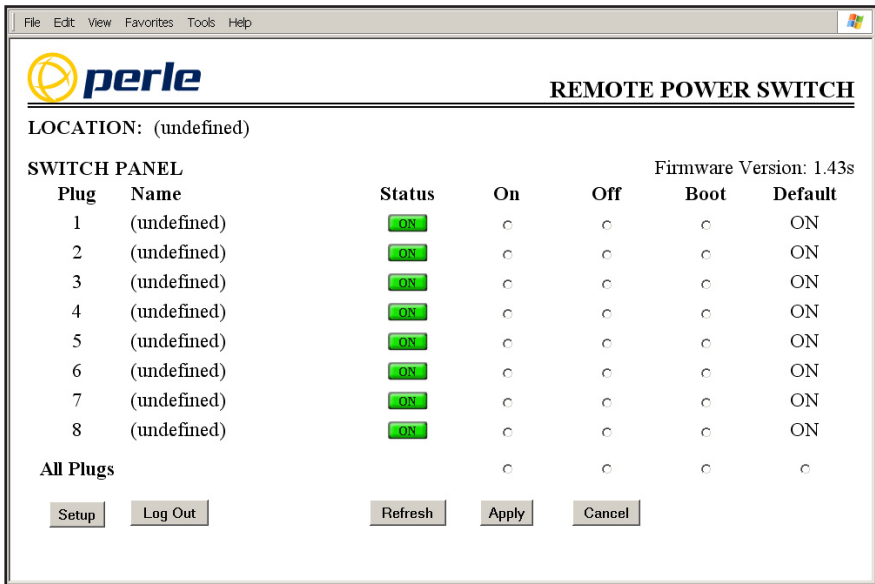

Figure 3.1: Plug Status Screen - Web Browser Interface (Model RPS830 Shown)
- a) **Web Browser Interface:** Start your JavaScript enabled Web Browser. Enter the RPS's default IP address (192.168.168.168) in the address bar, then press **[Enter]**. A password prompt will be displayed. Since at this point, the username and password have not been defined, you can simply click OK without entering a username or password. The Plug Status Screen will be displayed as shown in Figure 3.1.